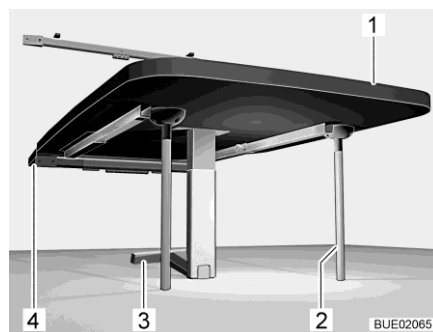

Fig. 134 Suspension table as bed foundation
- Lift the front of the table top (Fig. 134,1).
- Fold the lower part of the fold-out leg (Fig. 134,3) by 90°.
- Insert two additional support legs (Fig. 134,2) on the table top's bottom side.
- Insert and lock the table in the lower retainer (Fig. 134,4).